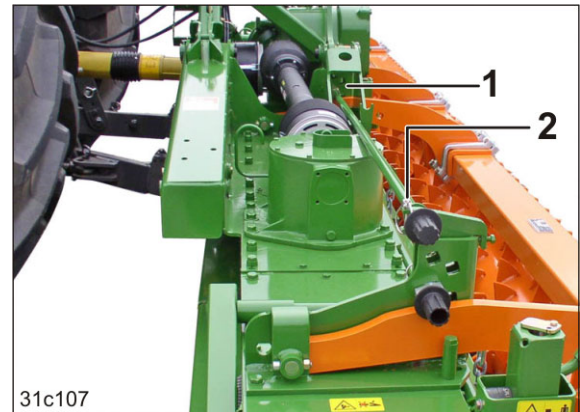

Fig. 82
6. Position the depth setting pins (Fig. 82/1):